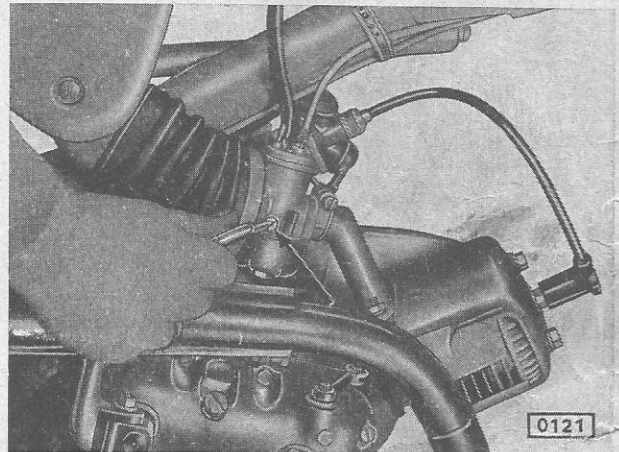

Fig. 21: Adjusting the stationary run
3. If engine threatens to peter out, screw in throttle piston stop screw until the engine runs smoothly when being warm (Fig. 21).